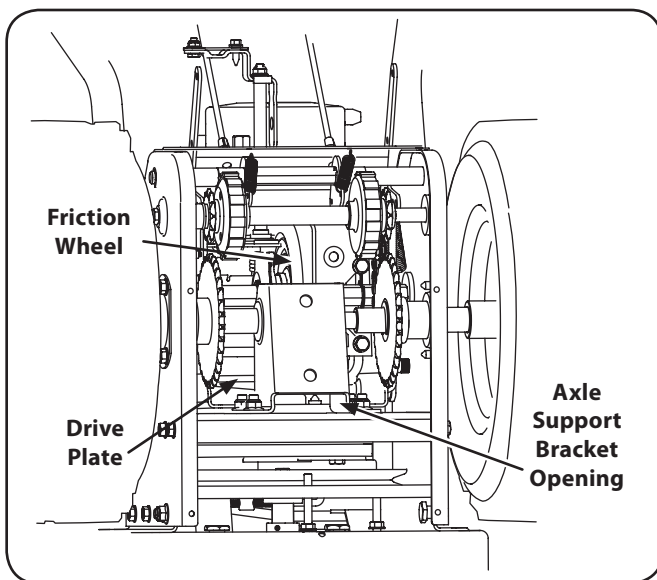

Figure 6-7
2. Locate the opening between the axle support bracket and the front frame support (See Figure 6-7). Looking through this opening, with the drive control released, there must be clearance between the friction wheel and the drive plate in all positions of the shift lever.
3. With the drive control engaged, the friction wheel must contact the drive plate. See Figure 6-7.